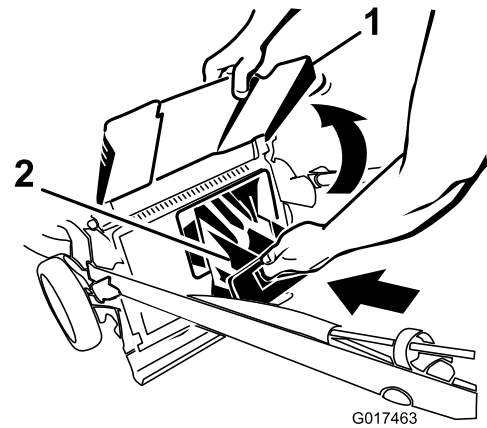
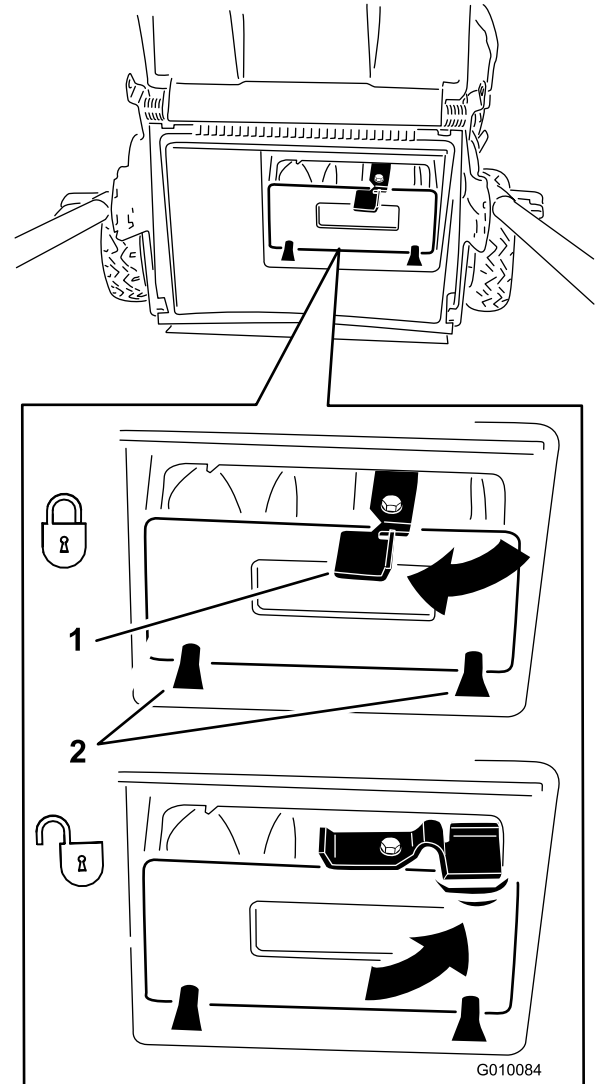

Figure 20
Figure 21
**Important:** Ensure that the rear plug is locked in place. To lock the plug, raise the rear door (Figure 20), firmly push the plug in until it snaps into place behind the tabs, and rotate the lever on the plug to the left (Figure 21).
**Note:** To unlock the rear plug, rotate the lever on the plug to the right (Figure 21).